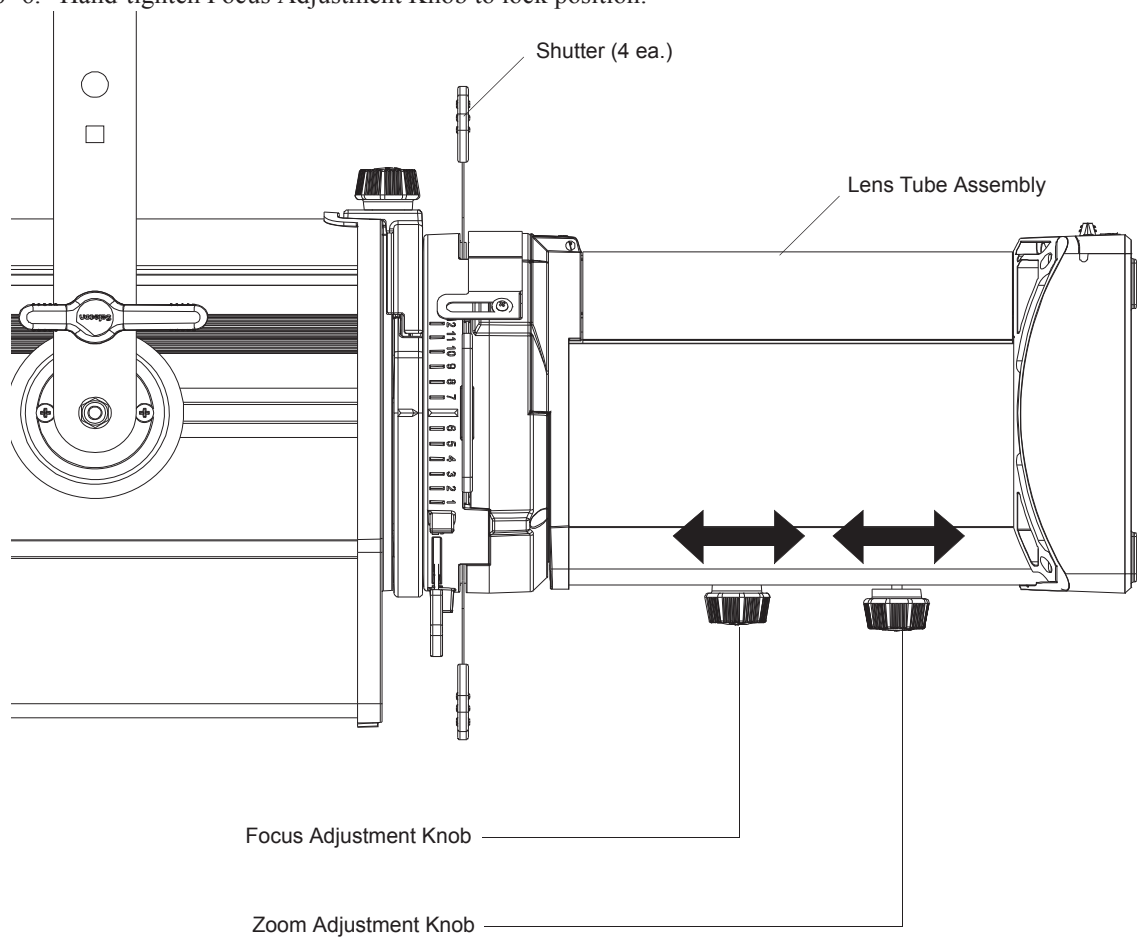

Figure 8: Zoom and Focus Adjustment Knobs
- Step 2. As shown in **Figure 8**, loosen Zoom Adjustment Knob and set beam angle as desired.